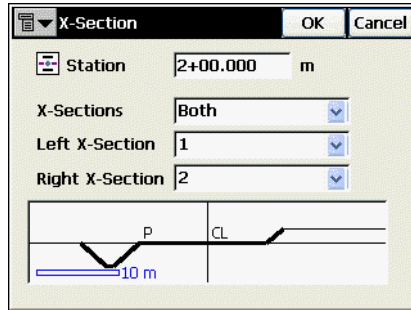

Figure 4-45. Cross Section
3. In the *X-Section* screen, define the station, where the cross section will be applied, or the distance to this station, and specify the cross section templates for the left and/or the right parts of the road cross section (Figure 4-45 on page 4-34). These can be chosen only from the existing cross section templates. Tap **OK**.